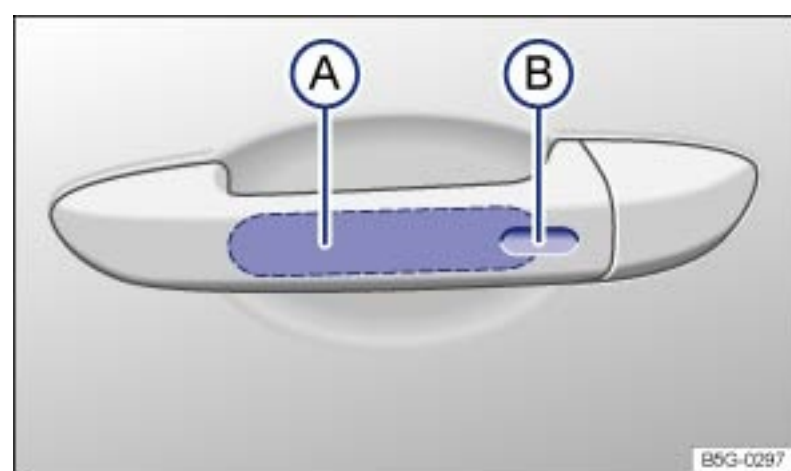

Fig. 29 Keyless Access system: Sensor for unlocking ① on the inside of the front door handles. Sensor for locking ② on the outside of the front door handles.
button start, a keyless starting and locking system that unlocks and locks the vehicle without active use of a remote control vehicle key. All you have to do is touch a sensor surface on one of the front outside door handles → Fig. 29 or push the Volkswagen emblem on the rear hatch → Opening the rear hatch when a valid remote control vehicle key is within range → ⓘ.
- Keyless Entry: Unlocking the vehicle with the sensor surfaces on the outside door handles of the driver or front passenger door → Fig. 29 ⓘ or by using the Volkswagen emblem on the rear hatch.
the driver or front passenger door → Fig. 29 ② .
- Grasp the door handle of the driver or front passenger door so that you touch the unlocking sensor surface → Fig. 29 ① .
- Touch the sensor surface in the door handle on the driver or front passenger door → Fig. 29 ② one time. The vehicle is locked. The door being locked must be closed.
To use the convenience closing feature to close all power windows and the sunroof, hold your finger on the lock sensor surface on the outside of the door handle → Fig. 29 ⓑ for a few seconds until the windows and sunroof close.